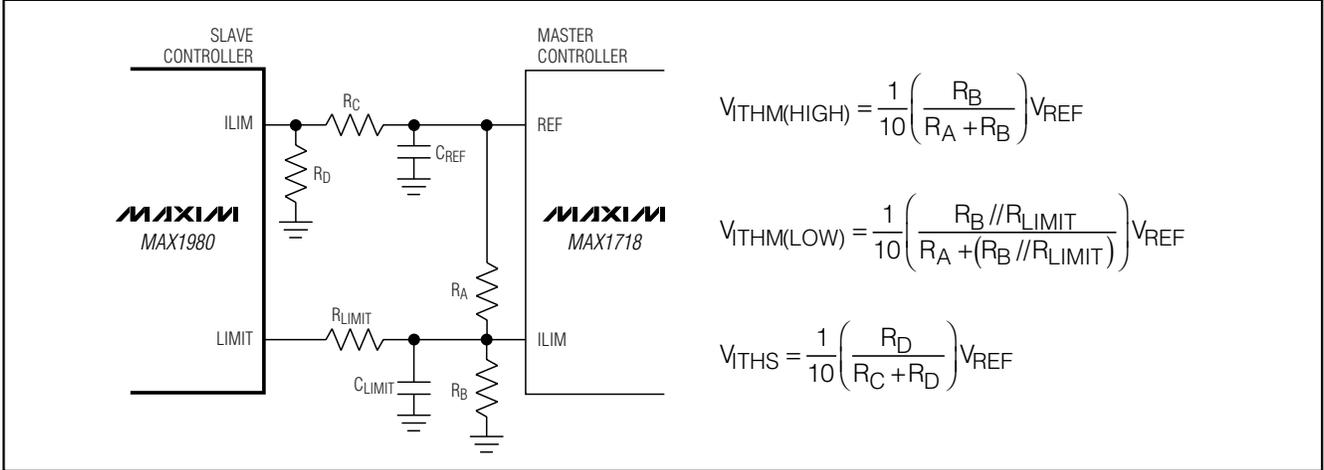

Figure 5. Setting the Adjustable Current Limits
where  $V_{ITHM}$ , the master's current-limit threshold, is typically 1/10th the voltage seen at the master's ILIM input ( $V_{ITHM} = 0.1 \times V_{LIM(MASTER)}$ , see the master controller's data sheet). Connect a resistive voltage-divider from the master controller's internal reference to GND, with the master's ILIM input connected to the center tap (Figure 5). Use 1% tolerance resistors in the divider with 10 $\mu$ A to 20 $\mu$ A DC bias current to prevent significant errors due to the ILIM pin's input current:
where  $V_{ITHS}$ , the slave's current-limit threshold, is precisely one-tenth the voltage seen at the slave's ILIM input ( $V_{ITHS} = 0.1 \times V_{LIM(SLAVE)}$ ). Connect a second resistive voltage-divider from the master controller's internal reference to GND, with the slave's ILIM input connected to the center tap (Figure 5). The external adjustment range of 400mV to 1.5V corresponds to a current-limit threshold of 40mV to 150mV. Use 1% tolerance resistors in the divider with 10 $\mu$ A to 20 $\mu$ A DC bias current to prevent significant errors due to the ILIM pin's input current. Reducing the current-limit threshold
Now select the resistive-divider values ( $R_A$  and  $R_B$  in Figure 5) to set the appropriate voltage at the master's ILIM input:
Select the resistive-divider values ( $R_C$  and  $R_D$  in Figure 5) to set the appropriate voltage at the slave's ILIM input:
- 4) Determine  $R_{LIMIT}$  (Figure 5) from the above equation: